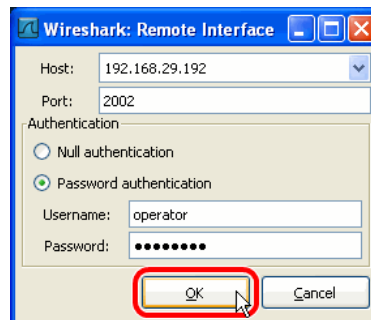

Figure 33: Wireshark Remote Interface Dialog.
4. Enter the correct settings for **Host** and **Port** (default 2002) and, if authentication is enabled, enter **Username** and **Password** in the corresponding fields as shown in Figure 33.